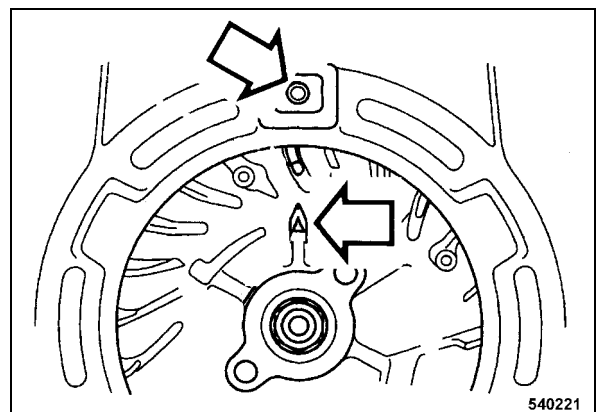

Fig. 46
- Align the alignment mark Δ on the flywheel rib with the top bore in the fan cover (Fig. 46).